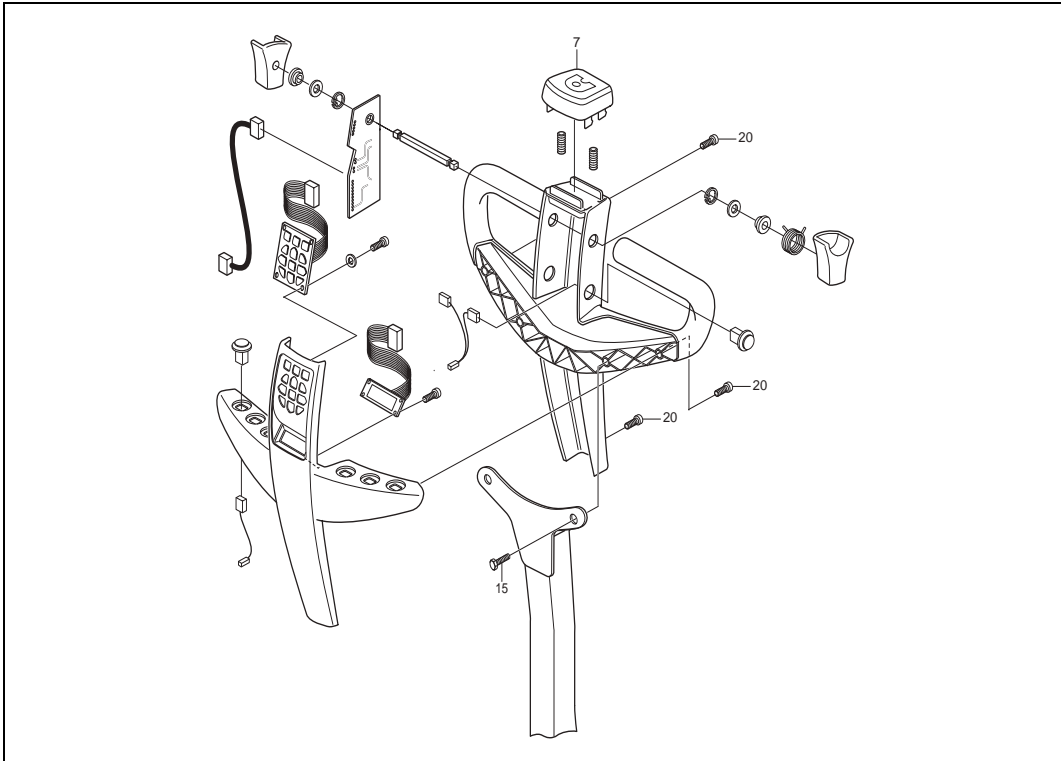

Figure 7.1 Tiller head
1. Loosen the three screws, pos. 20 see Figure 7.1, that secure the upper cover.
2. Press in the belly switch, pos. 7 see Figure 7.1, and release the cover by carefully pushing it upwards and outwards.
3. Loosen the two screws, pos. 15 see Figure 7.1.